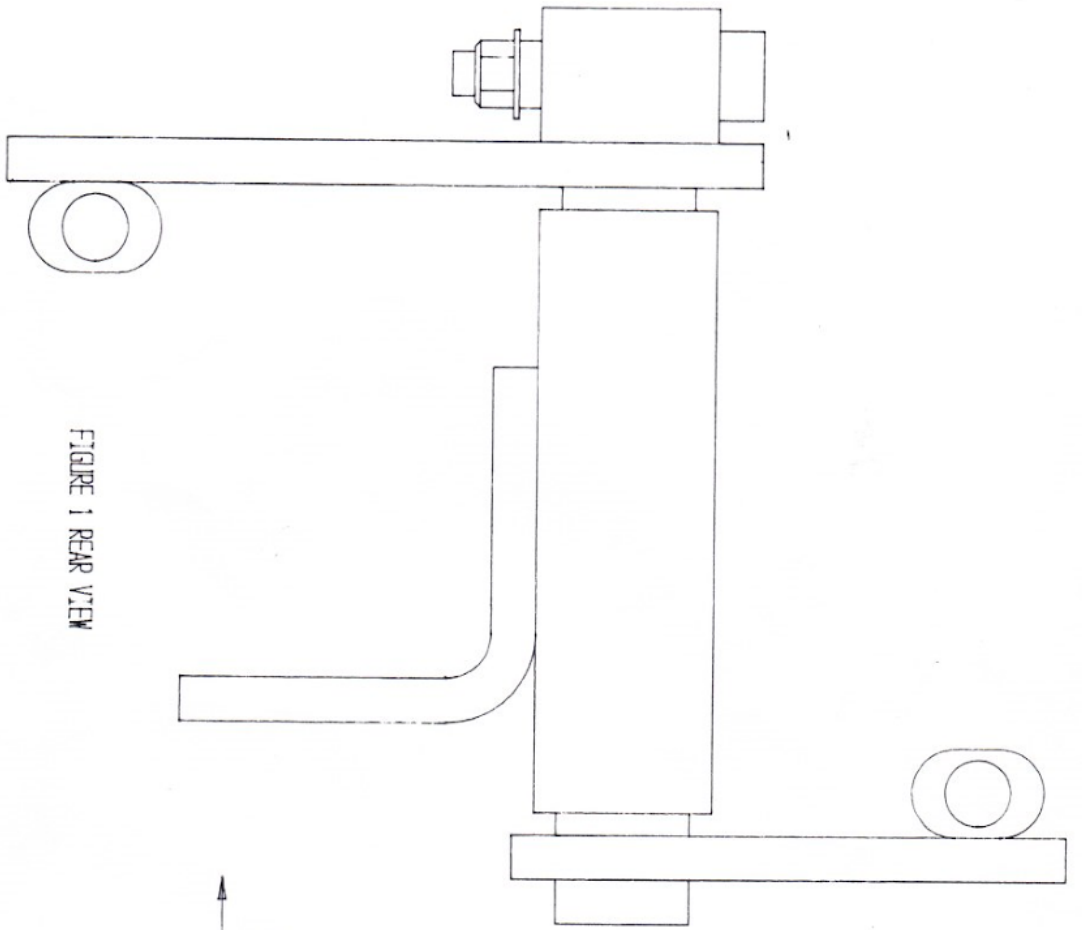
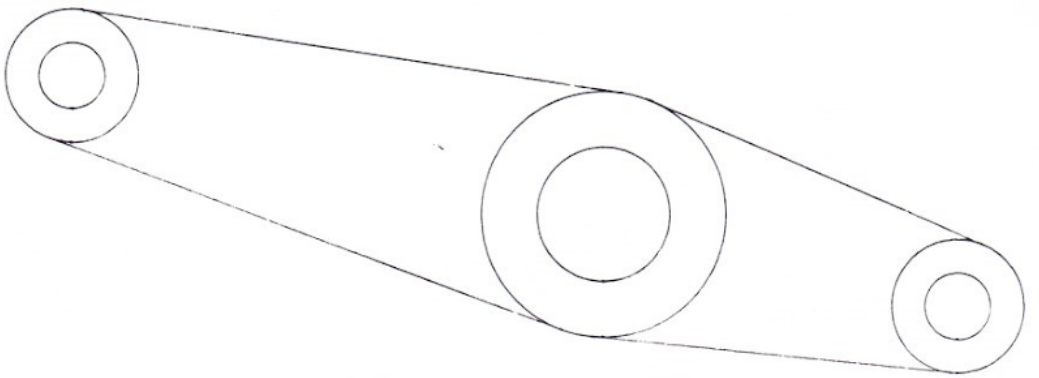

FIGURE 1 REAR VIEW
FIGURE 2 L/H SIDE
- 7) Assemble the bell crank mechanism as shown in Figure 1. Be sure that the lock bolt is installed from the **top down**. Install the nylon spacer onto the threaded end first, followed by the flat washer and then the locknut.
- 9) Attach the rod end on the hex adjuster, (Step 6) to the bell crank assembly as shown in Figure 1 using one of the 3/8"-24 x 1 1/2" bolts and lock nuts supplied in the kit. Tighten the bolt, but leave the jam nuts loose. Thurn the hex adjuster as required to obtain the preferred lever position as shown in Figure 2. Remember the 1/2" of thread engagement.